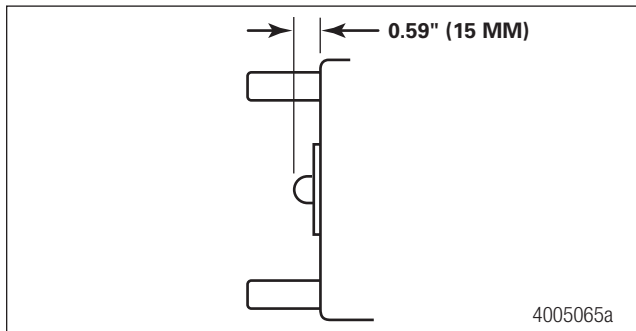

Figure 18
12. Inspect the piston rod for wear or damage. Make sure it extends to 0.59-inch (15 mm) standout length. Figure 18.